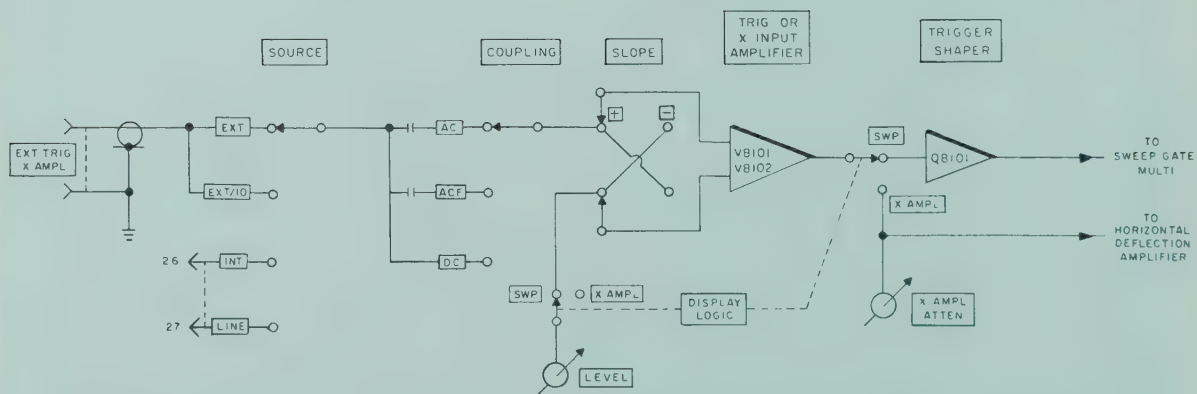

Figure 3-1b. DA Trigger 8 X Input Circuits, Functional Block Diagram
- Figure 3-1b. DA Trigger Circuit, Functional Block Diagram
When the DISPLAY LOGIC switch is set to X AMP, the EXT TRIG input connector of the Delayed Sweep becomes the X Amplifier input. Simultaneously, the Delayed Sweep LEVEL control becomes the variable X AMPLIFIER ATTENUATOR control. The PULL EXT/10 setting provides 10:1 attenuation of the X Input signal. Thus external signals may be applied to the X AMP front-panel BNC connector. These signals are coupled to the X Input amplifier V8101 and V8102. The output of this amplifier is coupled to the horizontal deflection circuit via the X AMP setting of the DISPLAY LOGIC switch. See Figure 3-1b.